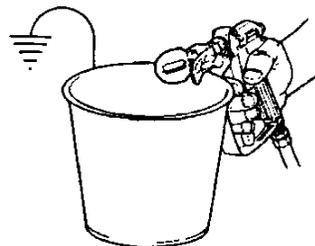

Figure 14. Pump until clean solvent appears.
- 6) Unlock trigger, and with spray tip still removed and pressure in prime zone, aim gun into paint pail and hold trigger open until paint flow stops and solvent flow just begins. Release trigger. Aim gun into solvent pail/hopper and circulate solvent for about two minutes. To reduce splashing, direct the fluid stream along inside of bucket at a side angle and well above the fluid level (or submerge the tip in the solvent). Release trigger. Point spray gun into an empty waste bucket and spray at least 1 gallon of fluid into it. (see figure 14).